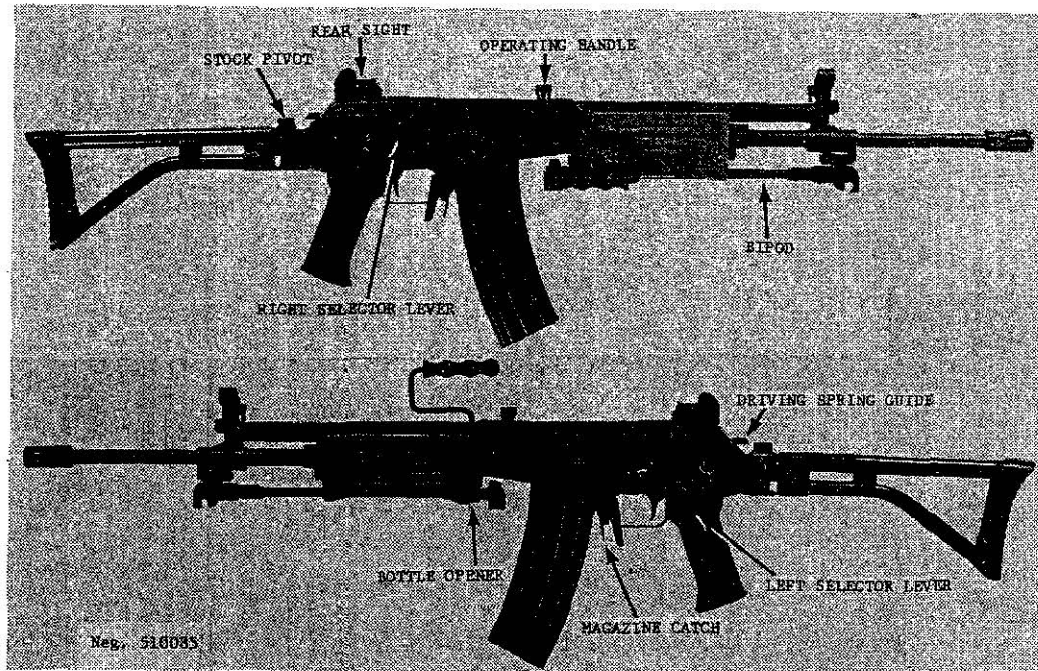
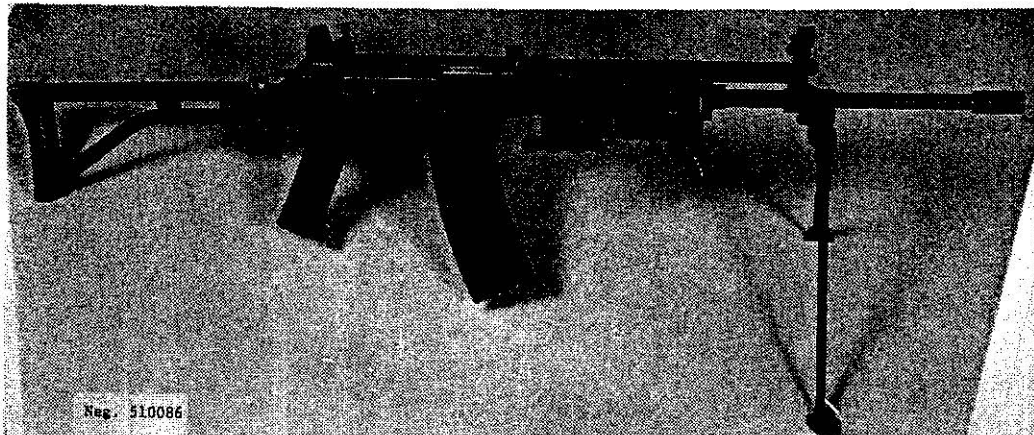
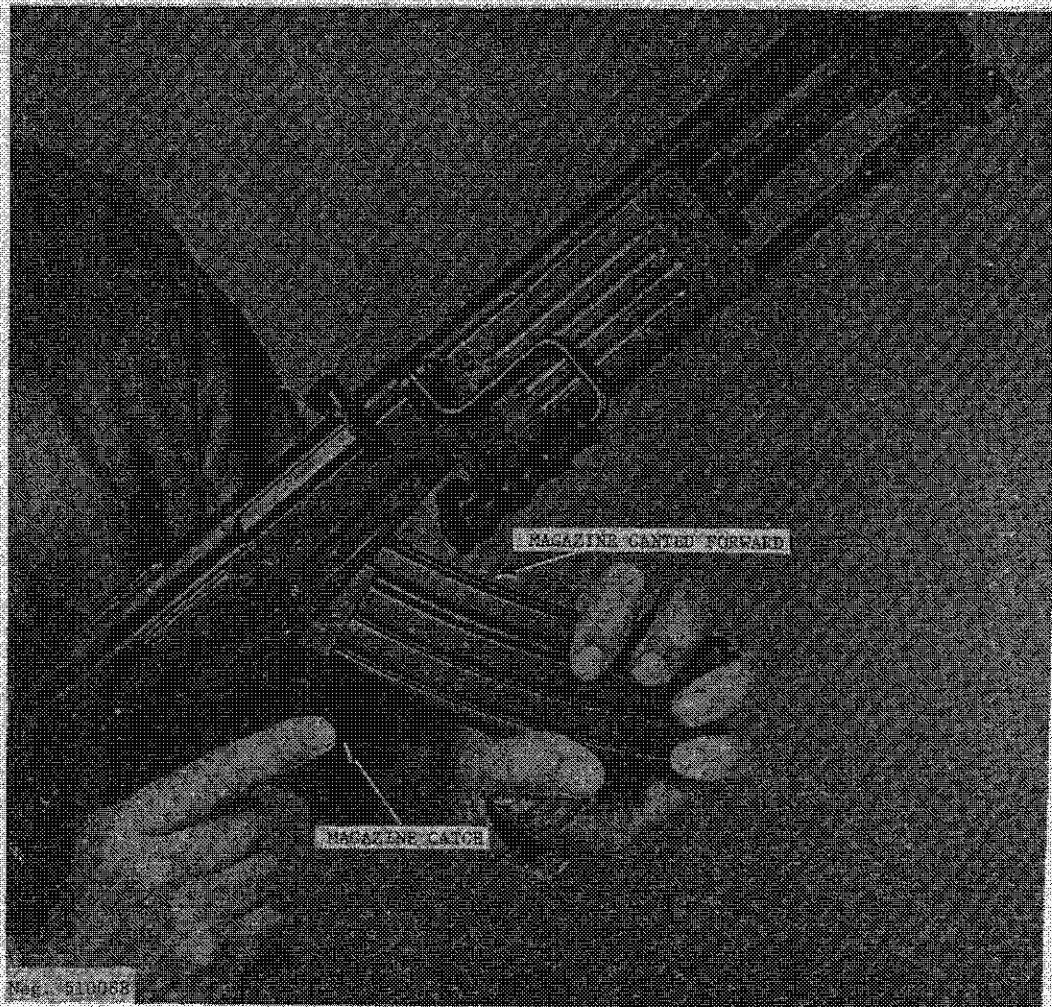

Figure 86. Israeli Galil rifle.
Figure 87. Galil on bipod.
Figure 89. Loading the Galil.
a. The 5.56-mm Galil rifle (fig 86) is a standard Israeli Army weapon. This rifle's design is based on the Soviet AK-47, with improvements to meet Israeli requirements. The Galil can be identified by its large rectangular forearm, prominent front sight mount and the gas cylinder, unique bent-up operating handle, and permanently attached bipod.
a. Remove the magazine by pressing the magazine catch (fig 86) forward and then rotating the magazine forward, out of the rifle. Place a 5.56x45-mm cartridge on the magazine follower and press the cartridge down until it rolls sideways, under the feed lip. Repeat until the magazine is full.
b. Unfold the stock by pressing down on the stock pivot (fig 86) until the stock can be swung outward. Rotate the stock rearward until it locks in place. The stock is folded by again pressing down on the stock pivot until it unlocks from the receiver; then swing the stock forward until it locks in place.
c. Set the rear sight (fig 86) for range by flipping it forward (300-meter setting) or rearward (500-meter setting). The front sight can be adjusted to zero the rifle. Refer to paragraph 137e for use of night sights.
d. When firing from the prone position, especially at longer ranges, the bipod (fig 87) should be used to steady the rifle. Squeeze the bipod legs together to disengage them from the bottle opener (fig 86), swing them forward, and allow them to spring
e. To load the Galil, insert a loaded magazine into the magazine well so that the lug on the top front of the magazine engages its recess in the well. (This requires that the magazine be canted forward.) Swing the magazine rearward until the magazine catch (fig 89) snaps into place. Move the selector from safe, if necessary, by pressing the right selector lever (fig 86) down or the
left selector lever (fig 86) rearward. Pull the operating handle (fig 86) fully rearward and release it. CAUTION: The Galil is now loaded and ready to fire! If the rifle is not to be immediately fired, move the right-hand selector up, or the left-hand selector forward, to render the rifle safe.
a. Clear the rifle (para 134h), but do not place the selector on safe or insert the magazine. Press the driving spring guide (fig 86) inward as far as possible, and, while holding it in, pull up the rear end of the receiver cover to disengage it from the receiver. Remove the receiver cover. Press the driving spring guide far enough forward to disengage it from its seat in the receiver. Remove the driving spring assembly.